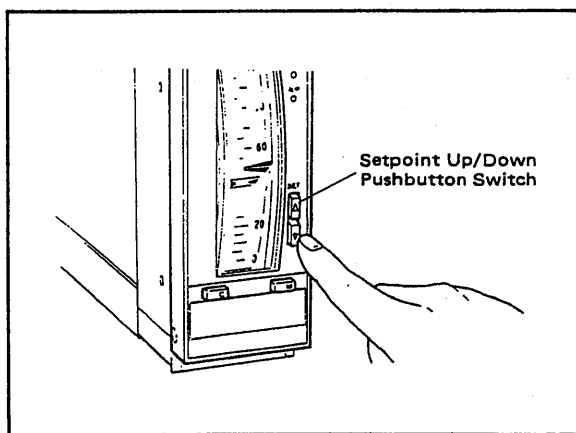

Figure 5-13. Adjusting the Setpoint.
- (2) Using the setpoint up/down (SET) pushbutton switches, set the desired setpoint. (See Figure 5-13).